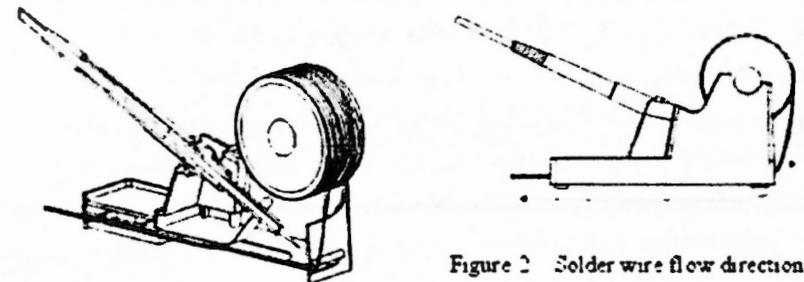

Figure 2 Solder wire flow direction
2. Position the soldering iron holder. (Figure 2)
4. Refer to Figure 2 to set up the solder wire flow direction.